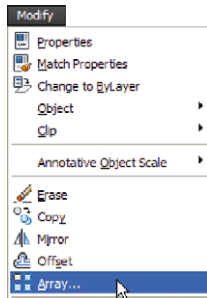
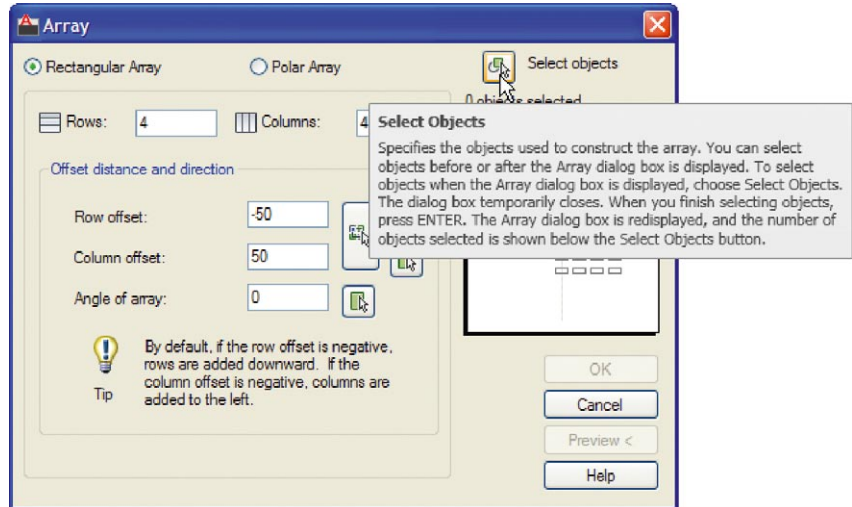

Fig. 5.16 Selecting **Array** from the **Modify** drop-down menu
Fig. 5.17 First example – the **Array** dialog
First example – Rectangular Array (Fig. 5.17)
2. Call the **Array** tool – either *click* **Array** in the **Modify** drop-down menu (Fig. 5.16), from the **Home/Modify** panel, or *enter* **ar** or **array** at the command line. The **Array** dialog appears (Fig. 5.17).